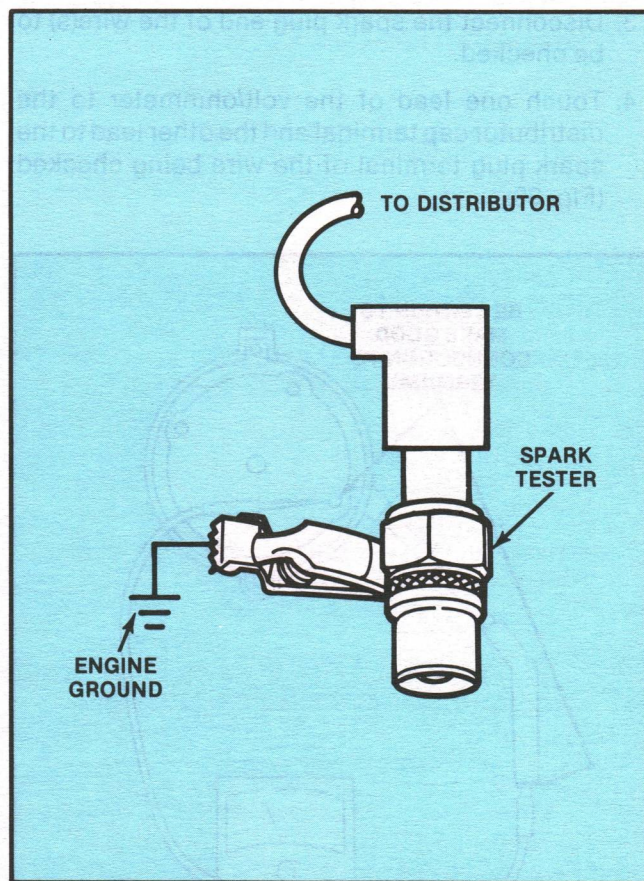

Figure 29. Ignition Coil Wire Check
1. With the engine OFF, connect a spark tester between any spark plug wire and engine ground (Fig. 29).